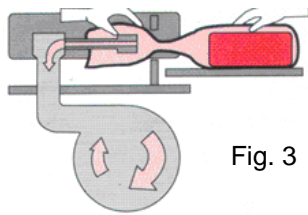

Fig. 3
-Place the bag containing the product on the special tray of the machine and put the open part of the bag on the nozzle (Fig. 3).